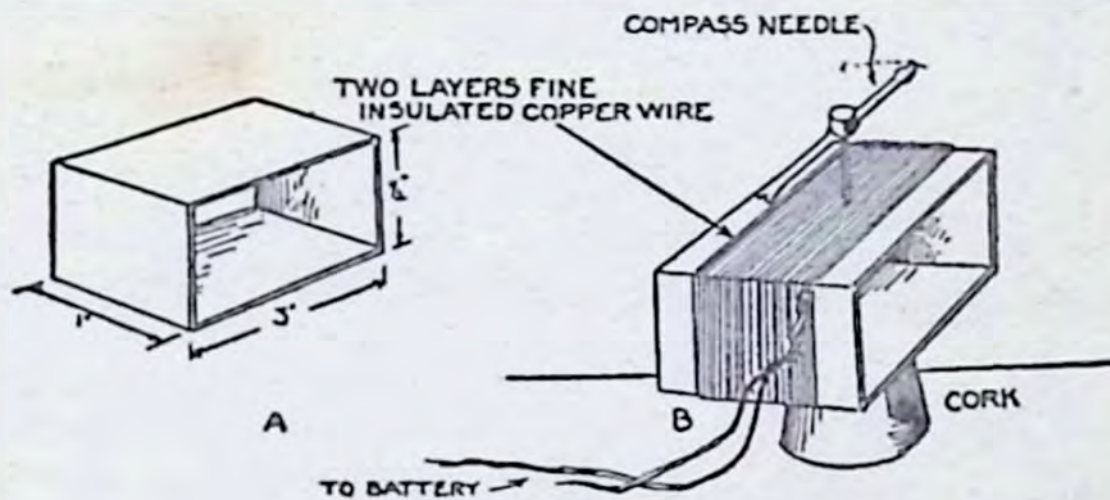

Fig. 1
(1) **HOW TO MAKE A GALVANOSCOPE:** A galvanoscope is a simple little piece of apparatus for detecting the presence of an electric current in a wire circuit. To make it, take a strip of cardboard 1 inch wide and 4 inches long and form it into a rectangle, as shown at A in Fig. 1.